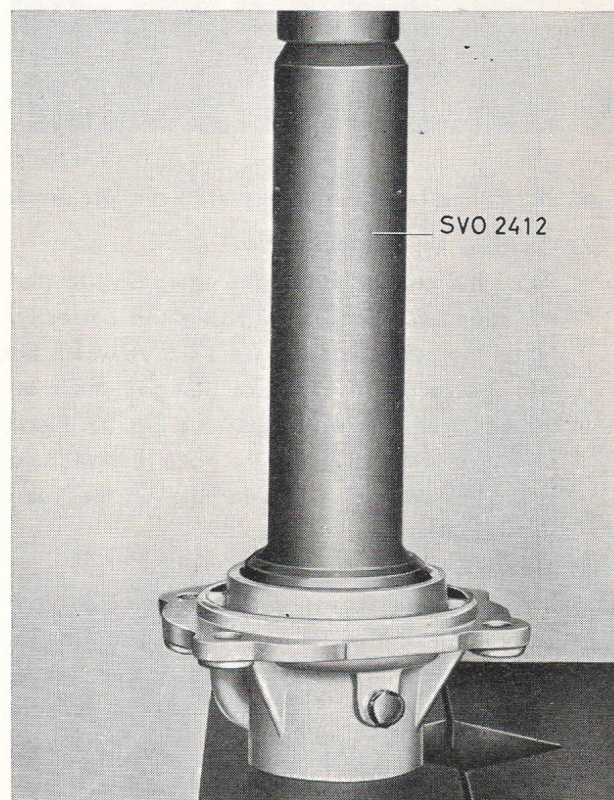
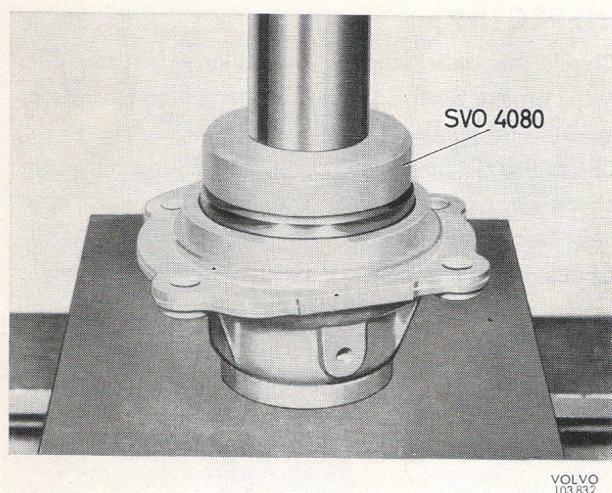

Fig. 28. Fitting ball bearing in rear cover, early prod.
Fig. 29. Fitting ball bearing in rear cover, late prod.
1. Press the ball bearing into the rear cover. Use drift SVO 2412 for early prod. covers (Fig. 28) and SVO 4080 for late prod. covers. (Fig. 29.) Fit the circlip. There are different thicknesses of circlip, so select one which fits snugly in the groove.
1. Press the ball bearing into the rear cover. Use drift SVO 2412 for early prod. covers (Fig. 28) and drift SVO 4080 for late prod. covers (Fig. 29). Fit the circlip. There are different thick-